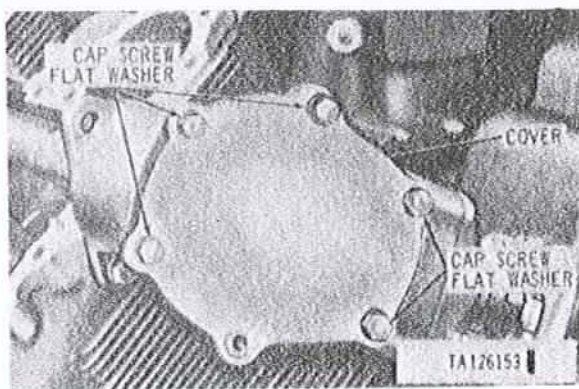
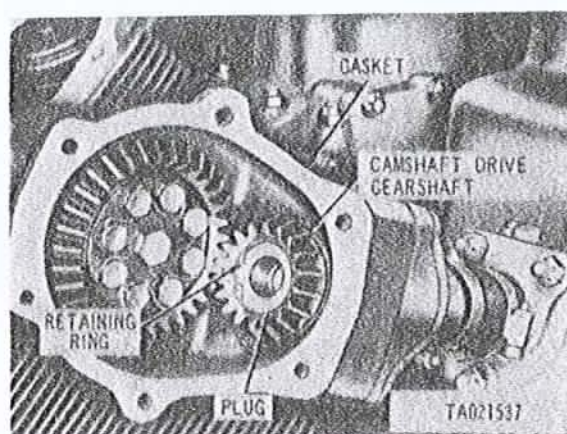

Figure 3-70. Removing or installing right camshaft gear housing cover.
Figure 3-71. Removing or installing camshaft drive gearshaft oil transfer plug retaining ring.
e. Remove five hex-head bolts and flat washers (fig. 3-70) and remove right camshaft gear housing cover gasket (fig. 3-71). Remove camshaft drive gearshaft oil transfer plug retaining ring.